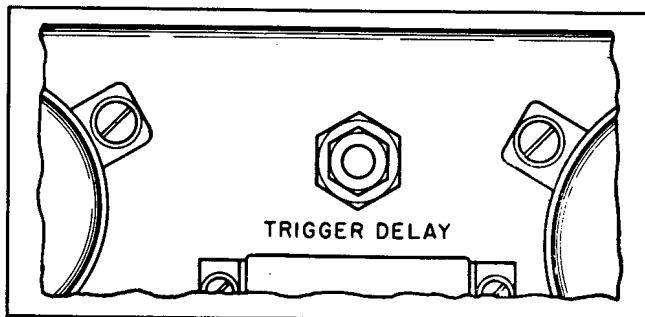

Figure 7-111. TRIGGER DELAY Control on IFF Coordinator
(4) With the CHALLENGE switch in the MOMENTARY or ON position, and the IFF receiver operating properly, an IFF response should appear on the Range Scope. This should be under, or nearly under the radar target indication. Adjust the IFF REC. GAIN control on the IFF Coordinator if the IFF response does not have sufficient amplitude.
(5) Loosen the clamp nut and adjust the TRIGGER DELAY control until the radar pip and IFF pip are in the same vertical line. This control is shown in Fig. 7-111. The adjustment should not have to be changed unless the ship is required to operate with another type IFF equipment requiring a different delay period.